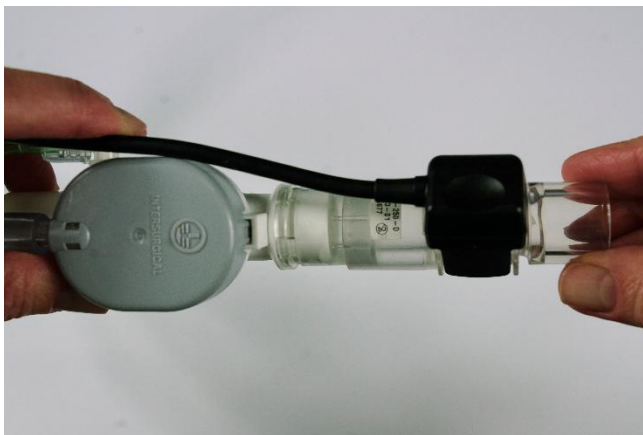

FIGURE 13: FLOW SENSOR CONNECTION TO BREATHING CIRCUIT
- 3 Connect Flow Sensor to the patient site of the Breathing Circuit as shown in **Figure 13: Flow Sensor Connection to Breathing Circuit**.